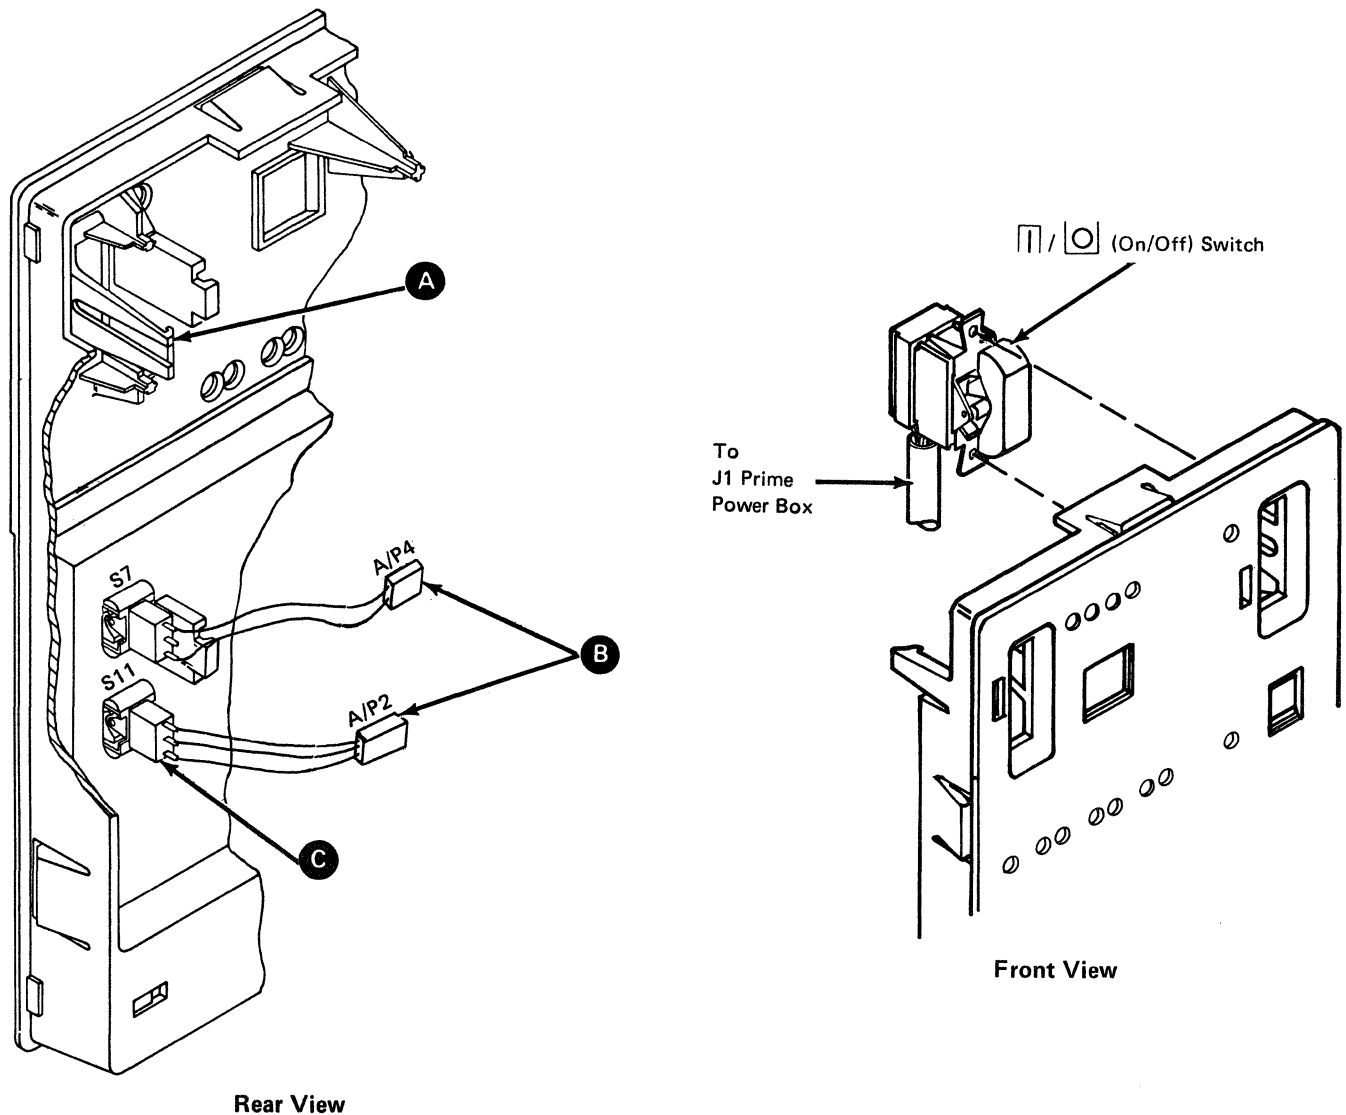

Figure 4-12. Operator Panel Switches
4.11 Operator Panel Switches, Removal and Replacement (Figure 4-12)